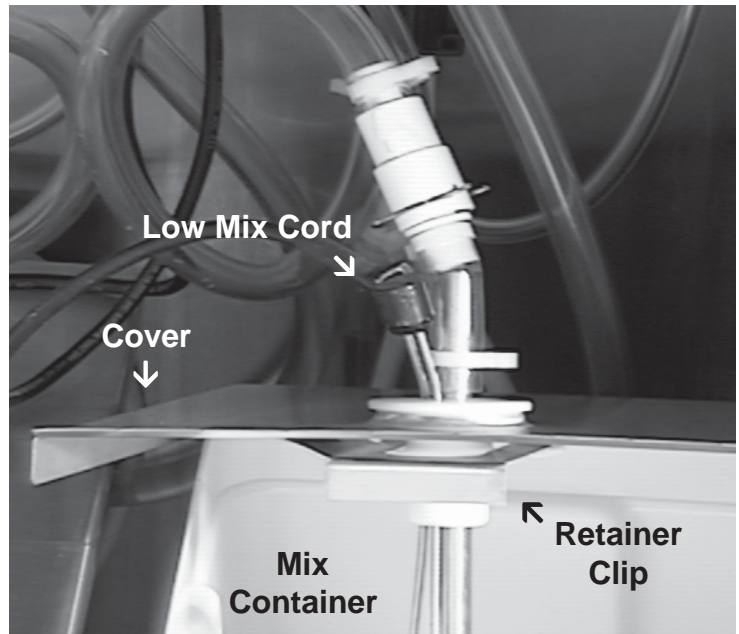

Figure 9. Mix Inlet Tube & Probe Assy. Clip
- B. Connect 1/2 inch (12,7mm) I.D. plastic food grade tubing to check valve and then to the mix container. Observe check valve flow arrow. Secure with hose clamps. Then place assembly thru hole in cover and install retainer clip. Figure 9.
- C. Connect 1/2 inch (12,7mm) I.D. plastic food grade tubing between the large port of air/mix tee and refrigerated mix transfer line. Secure with large hose clamp or equivalent. Figure 9.
- D. Connect mix low cords. Figure 9.